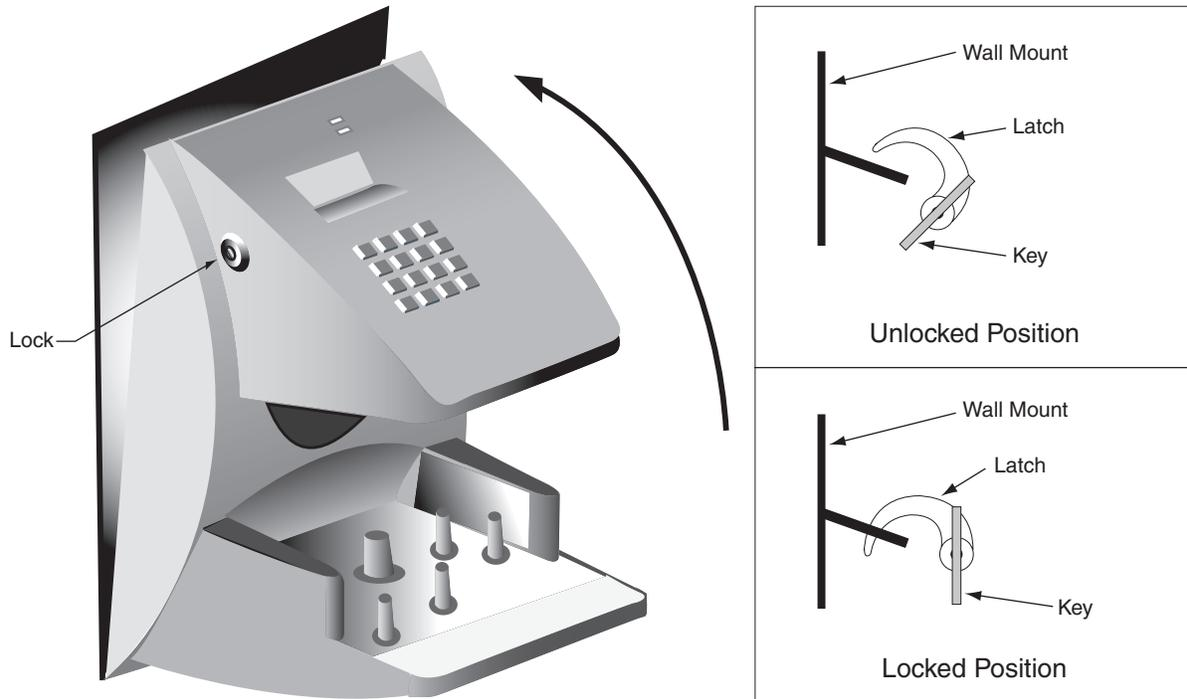

Figure 6
1. Unlock the HandReader and rotate. See figure 6 on the last page of this instruction.
12. With the key in the unlocked position, rotate the HandReader back upright. Turn the key counter-clockwise to lock the HandReader into place. See figure 6 below.